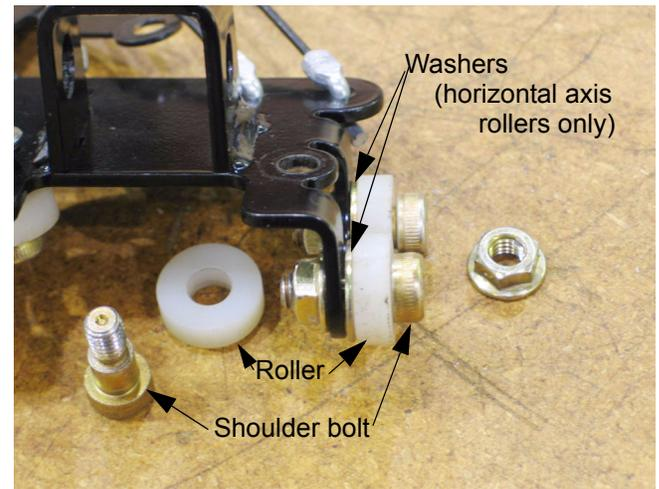

Figure 12.26
12.26. While the cable bracket and actuator mounting bracket are disassembled, inspect the rollers and their mounting hardware. See Figure 12.26.